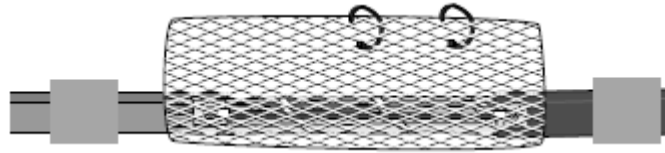

Figure 4
4. Center the inner liner around the splice bundle and overlap the ends of the mesh at least ½". Secure the mesh with the supplied tie wraps. (Figure 4)